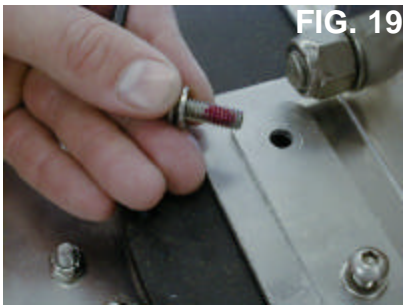

**FIG. 17**
9. Install pivot assembly with cover (fig. 17) tighten down 1/2-13 Nylocks with 1/2" drive socket to 50 ft. lbs. Once tightened check pivot rotation, pivot should rotate with 2 fingers as seen in fig. 18. If pivot is bound back each 1/2-13 Nylock off 1/8 turn, re-check for rotation, repeat as needed, until pivot rotates freely.